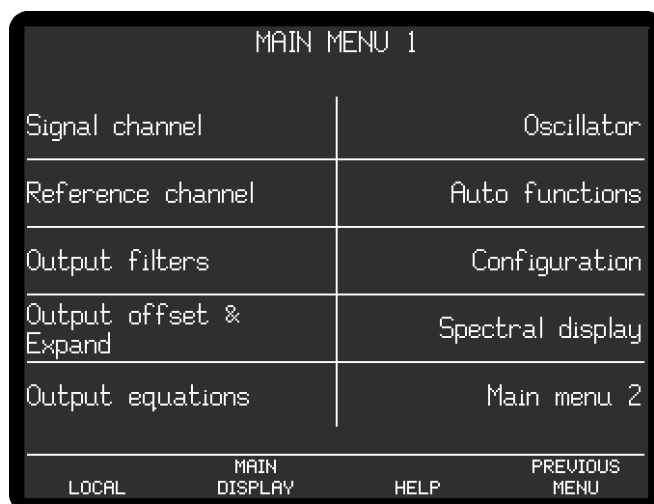

Figure 2-3, Main Menu 1
- 5) Wait until the opening display has changed to the Main Display and then press the key under the bottom right hand corner of the display identified by the legend MENU on the display. This enters the first of the two main menus, Main Menu 1, shown below in figure 2-3.